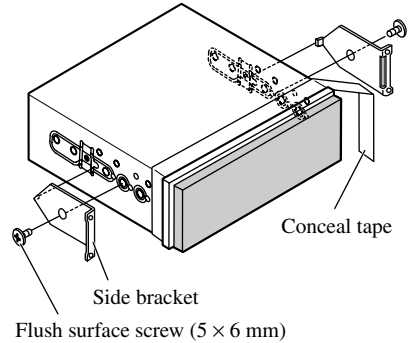

Fig. 14
1. **Decide the position of the side brackets. (Fig. 14)**